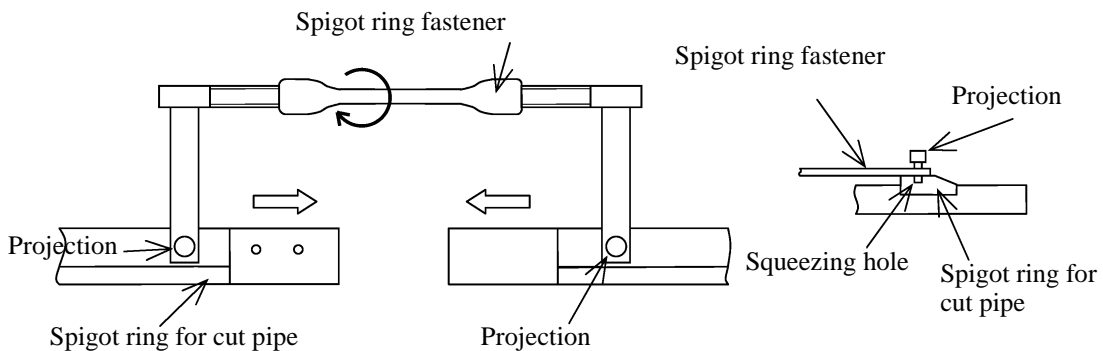

Figure-40 Spigot ring fastener
- (1) Confirm that there are no foreign materials such as sand in the groove of the spigot.
(2) Put a spigot ring in the groove on the spigot. Using a spigot ring fastener, make the spigot ring fixed in the groove. (See Figure-40.)